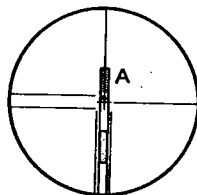

Fig. 26
- Sight the target A using the lower clamp ⑩ and fine motion ⑪ , Fig. 26.